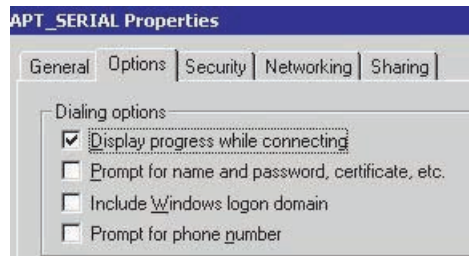

Figure 3.22: Windows 2000 APT_SERIAL Dialog Settings
- 11 Select the *Options* tab and configure the settings as shown in Figure 3.22.